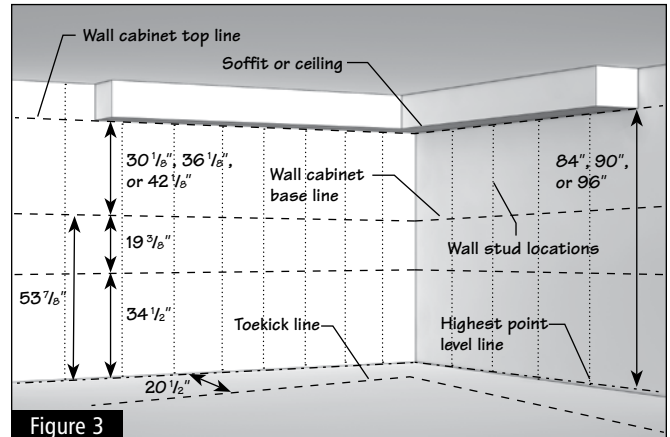

Figure 3
1.4 Now measure up from the wall cabinet base line the same distance as the height of your cabinets ($30\frac{1}{8}$ ", $36\frac{1}{8}$ ", $39\frac{1}{8}$ " or $42\frac{1}{8}$ "). This will be the top line for the wall cabinets. All non-standard height wall cabinets need to line up with this top line as well. (Figure 3)